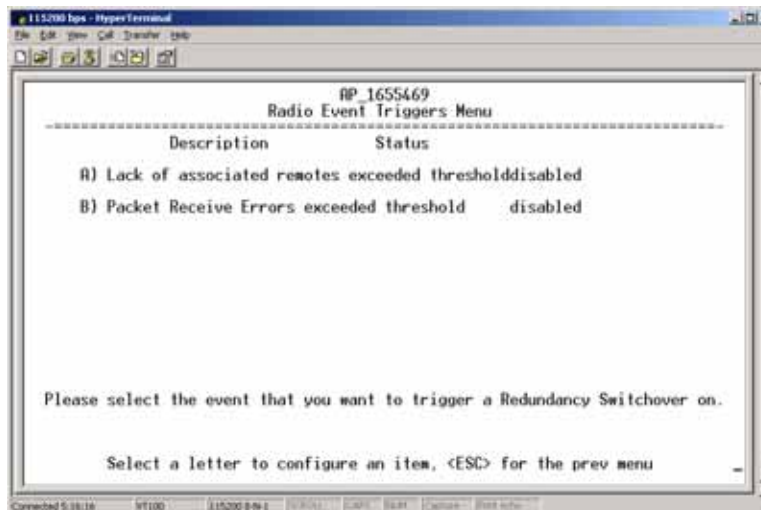

Figure 3-72. Radio Event Triggers
- **Radio Event Triggers**—This selection opens a submenu (Figure 3-72 on Page 103) where you can set/view the trigger status for Radio Events, such as a loss of associated Remotes or excessive packet errors.